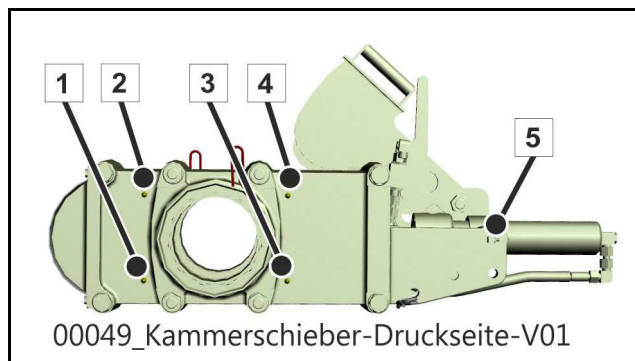
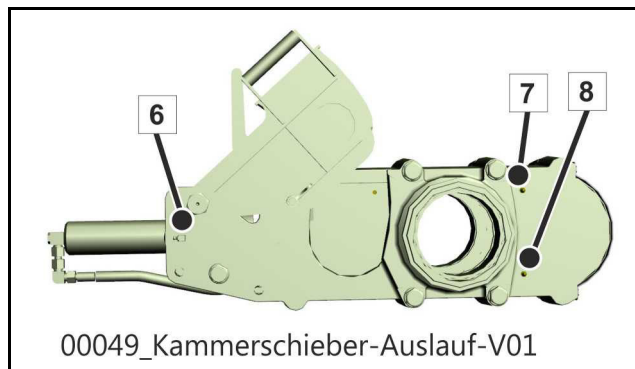

Fig. 467
Fig. 468
- Lubricate all grease nipples (pos. 1-8) (**Fig. 467**) (**Fig. 468**) on the chamber valve.